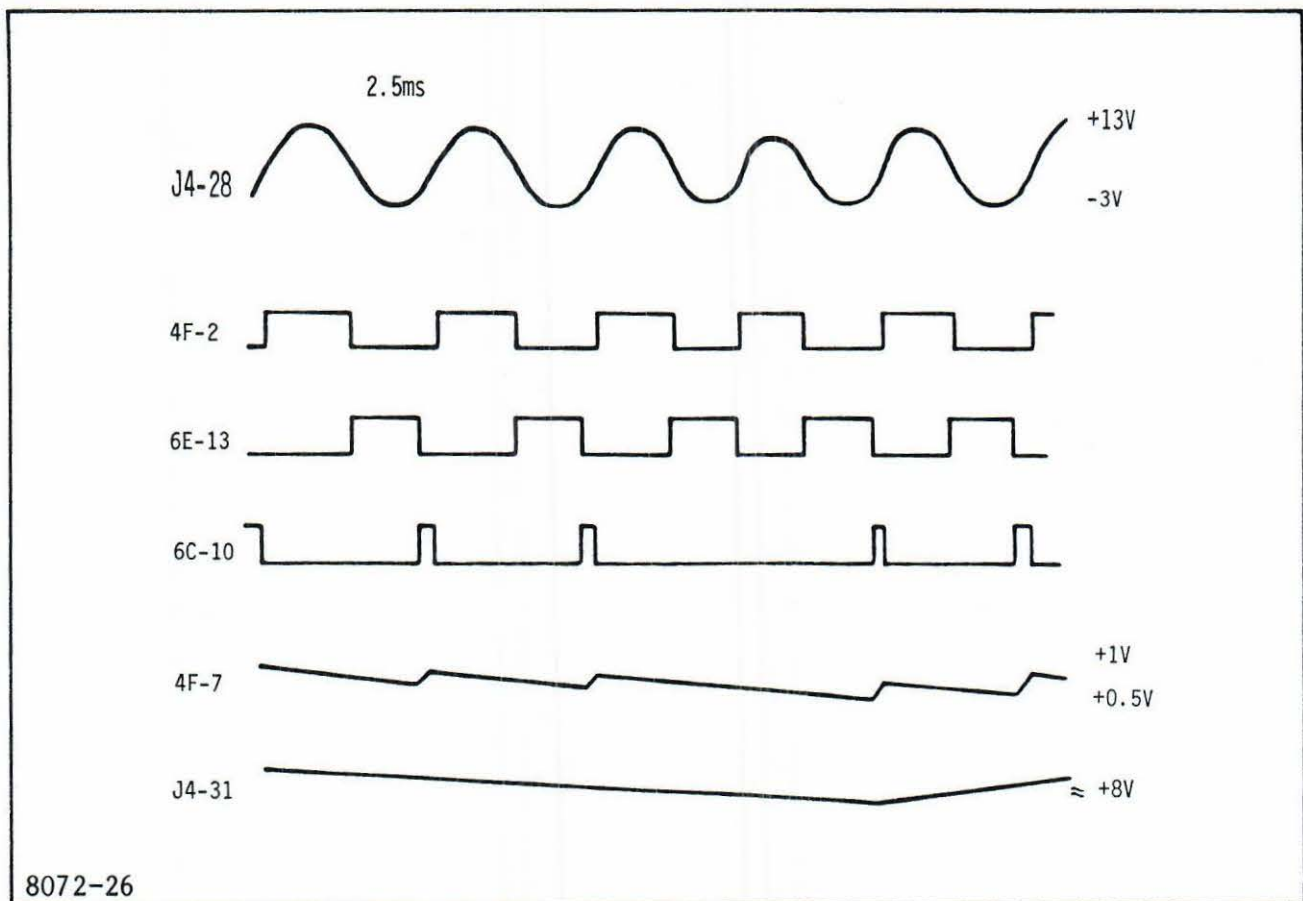

Figure 4-8. Motor Control Timing
2. Short together the collector and the emitter of output driver Q3. This should cause the drive motor to rotate at full speed, generating a TACH signal. If drive motor does not rotate, replace it. Check the drive motor logic and compare with timing diagram, figure 4-8.